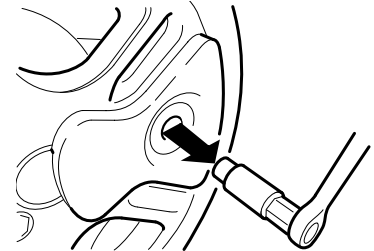

Fig. 7
- Unscrew the 2 screws which are under the soft dock by using the special torx tool (UK version only). (Fig. 7)
- Remove the locking bolt socket key. (Fig. 7)